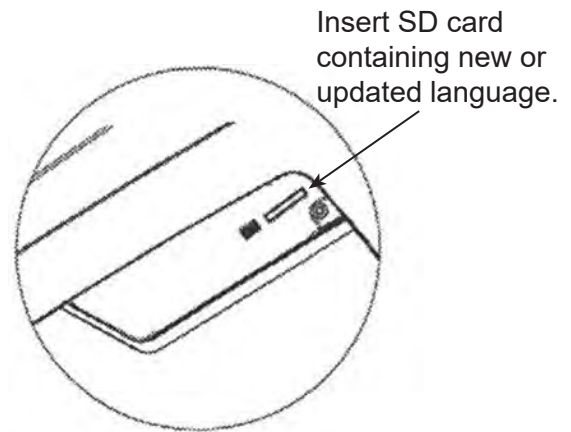

Figure 4
3. Insert the SD card containing the language data into the side panel on the machine. See Figure 4.